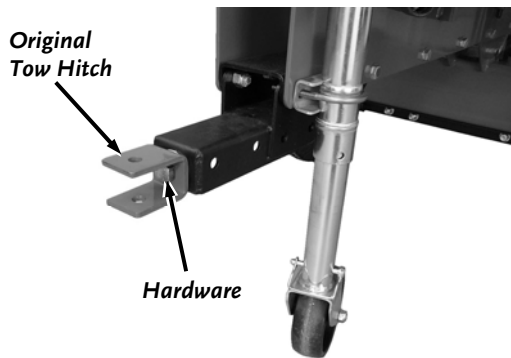

Figure 39
1. Remove the existing Hitch from the Log Splitter by removing the large Bolt, Washers and Locknut using a 15/16" Wrench and Ratchet with a 15/16" Socket (**Figure 39**).